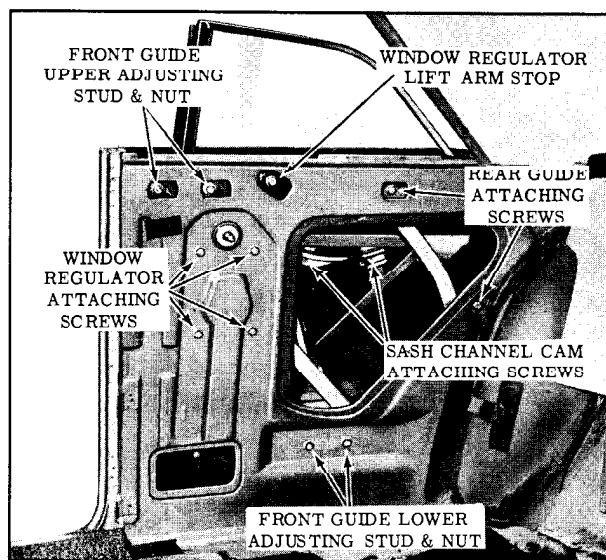

Fig. 17-11 Rear Quarter Hardware ("47" Style)
2. Remove rear quarter window rear guide attaching screws. (Fig. 17-11) Disengage rear guide from roller on window lower sash channel and remove guide.
3. With the rear quarter window in the half-down position, remove the lower sash channel cam attaching screws. (Fig. 17-11) Detach cam from roller on regulator arm and remove cam.
4. Remove rear quarter window front guide adjusting stud nuts. (Fig. 17-11)
3. With the rear quarter window in the half-down position, remove lower sash channel cam attaching screws. (Fig. 17-11) Detach cam from roller on regulator arm and remove cam.
2. To adjust the window fore or aft, loosen the front and rear guide attaching stud nuts. (Fig. 17-11) Position the window and guides fore or aft as required; then tighten the attaching stud nuts.
3. To adjust the rear quarter window in or out, loosen the front guide upper attaching stud nuts. (Fig. 17-11) Adjust the studs in or out as required; then tighten the stud nuts.
4. To adjust the top of the rear quarter window in or out, loosen the front guide lower attaching stud nut. (Fig. 17-11) Adjust the stud in or out as required then tighten the stud nut.
5. To relieve a binding condition between the channels of the front and rear guide, loosen the front and rear guide adjusting stud nuts. (Fig. 17-11) Operate window to full up position and tighten upper stud nuts on the front guide and forward attaching screw on rear guide. Operate window to full down and tighten remaining nuts.
6. To limit the forward and upward travel of the rear quarter window, adjust the regulator lift arm stop as required. (Fig. 17-11)
2. Remove rear quarter window regulator attaching screws (Fig. 17-11); then remove regulator assembly through large access hole.
2. With window in “up” position, remove the window front guide upper and lower attaching stud nuts. (Fig. 17-11)
2. With the window in the up position remove the window rear guide attaching screws. (Fig. 17-11) Disengage guide from roller on window lower sash channel and remove guide through access hole.